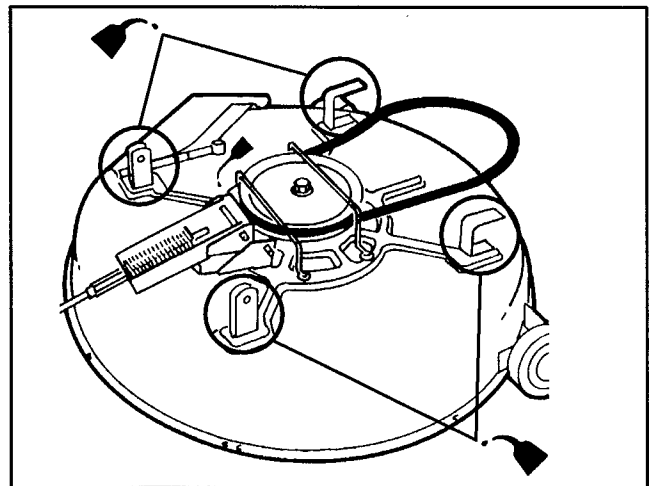

Figure 14
6. Lubricate mower mounts (Fig. 14). Wipe up any excess oil.